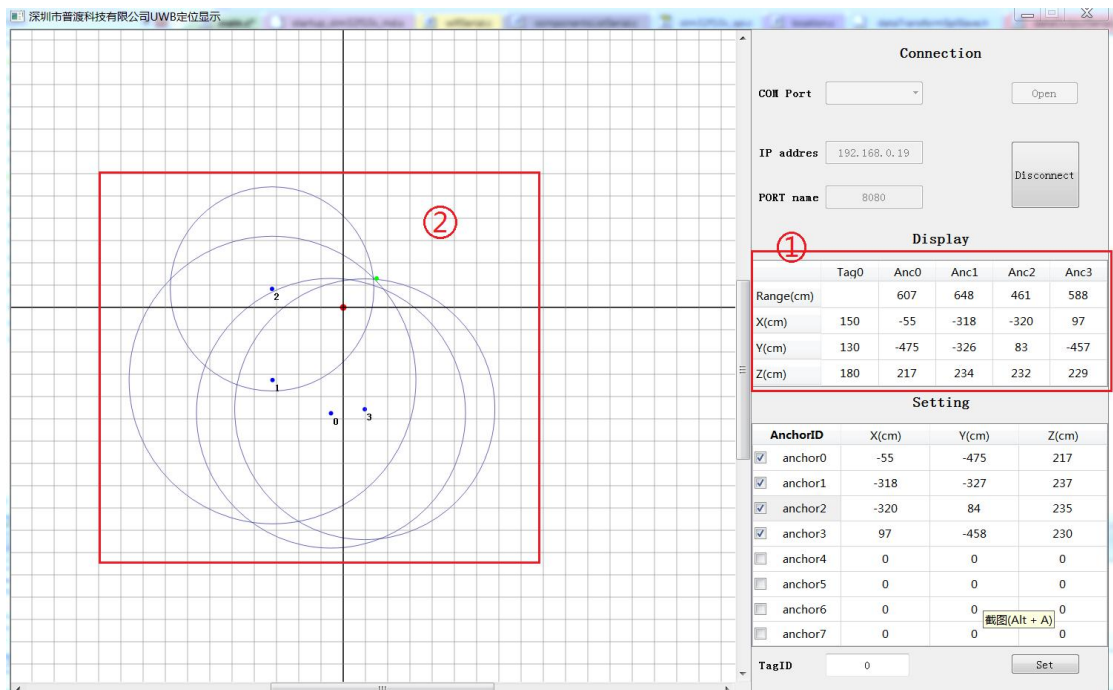

Figure 13 Sample interface
(1) As illustrated in Figure 13, in section ①, the first column shows the tag ID, and the calculated tag coordinates. If the coordinates are not correctly calculated, it will be (0, 0, 0). The 2nd to 5th column shows anchor-tag distances and anchor coordinates.
(2) As illustrated in Figure 13, in section ②, every grid represents an area of 1m*1m. X-axis of this coordinate system points to the right horizontally, Y-axis points to the top vertically. The red dot in the intersection point of X and Y axes is the origin. The blue dots on the diagram are anchors' locations, with their ID lying in their bottom-right corner. Blue circles are drawn with the anchor coordinates as the center, and distances as radius. The green dot is where the tag is, and its coordinates are written on the bottom-right corner of this dot. You can get an overview of how PK-1000 works clearly in this diagram: